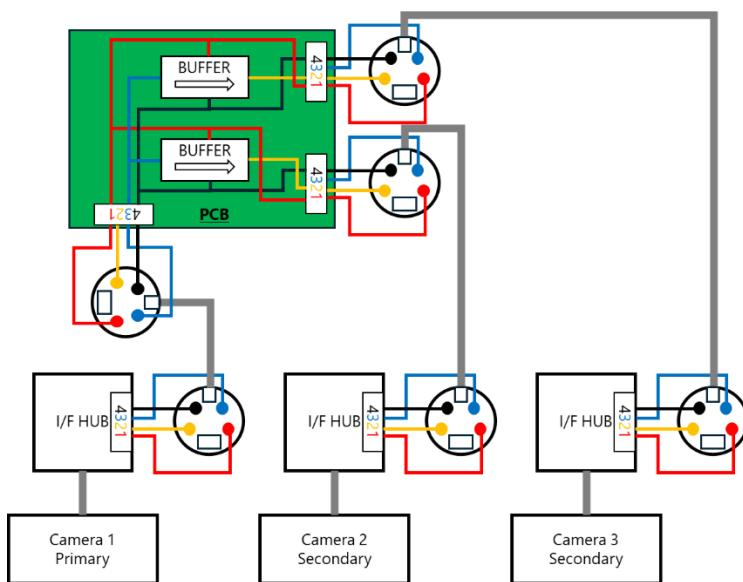

Figure 39. Example of a conversion board (PCB) for parallel camera connection
1. When connecting cameras together, pin 2 must be connected as input and pin 3 as output. For this reason, straight MINI-DIN 4P cables cannot be used. Therefore, prepare the converter board shown in **Figure 39. Example of a conversion board (PCB) for parallel camera connection**.